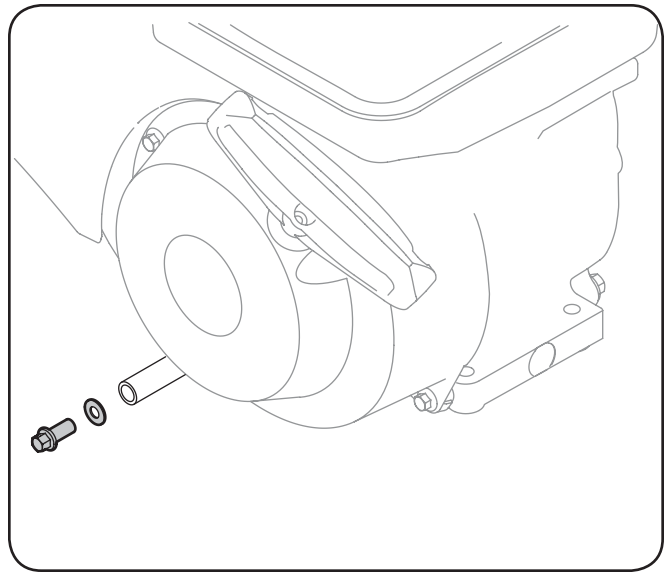

Figure 6-3
5. Remove the oil drain plug. See Figure 6-3.